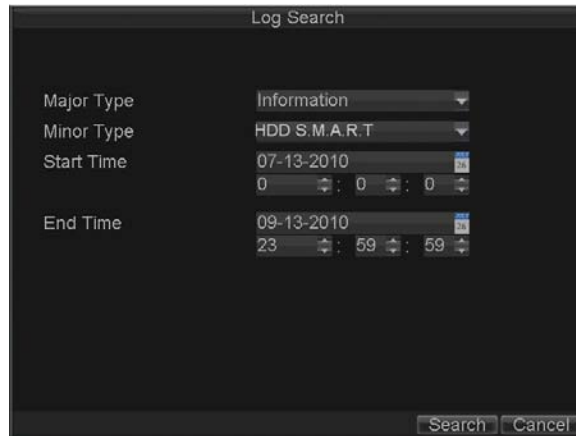

Figure 8. Log Search Menu
3. Click Menu > Maintenance > Log Search to enter the Log Search menu, shown in Figure 8.